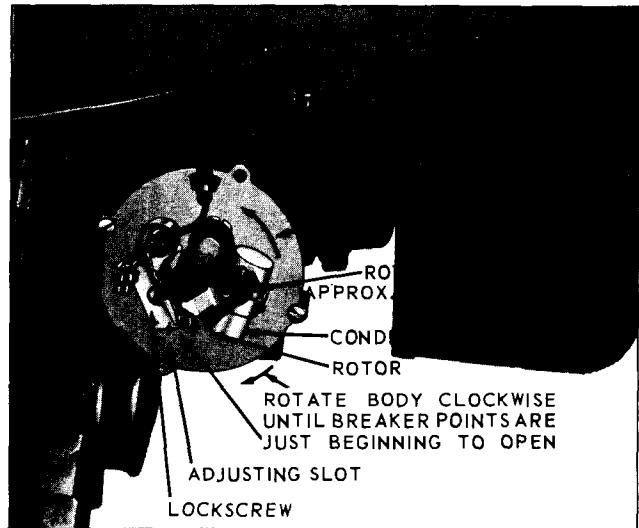
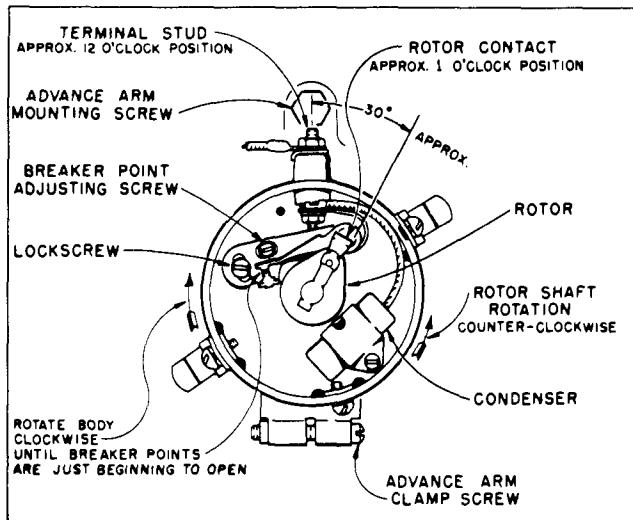

Fig. 7, DELCO-REMY DISTRIBUTOR
Fig. 7A, PRESTOLITE DISTRIBUTOR
4. **DISTRIBUTOR TIMING:** With the No. 1 piston now on **TDC** of the compression stroke, refer to Fig. 7 for the revised **Delco-Remy** distributor or Fig. 7A for **Prestolite**, and mount distributor as follows:
- b. Hold distributor with face up and **terminal wire** or **terminal stud**, away and in a **12 o'clock** position as shown. Mount rotor on shaft and turn until the **rotor contact** points in an approximate **2 o'clock** position as illustrated in Fig. 7, or **1 o'clock** position as in Fig. 7A.
- d. Mount **distributor clamp** to drive housing, Fig. 7, but do not tighten screw. If applicable, as per Fig. 7A, tighten **advance arm mounting screw** to the drive housing.